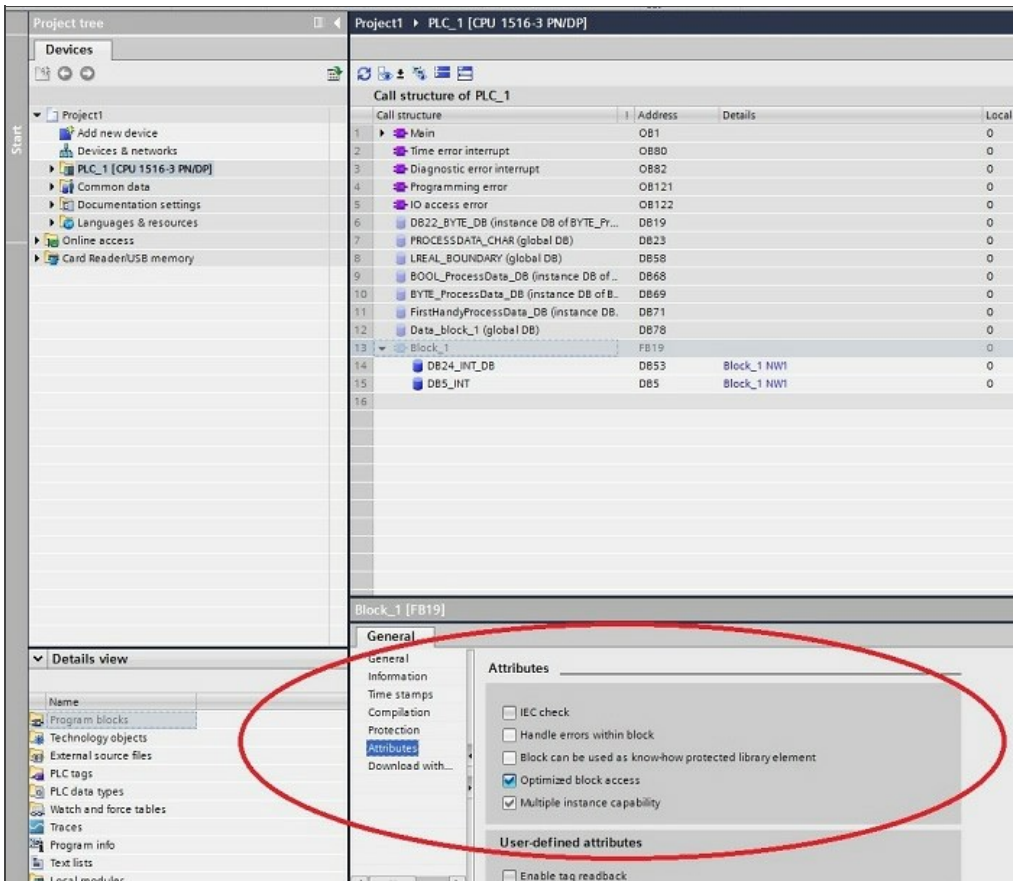

Figure 9 – Data Block Property
3. Select Attributes (Figure 9 below).